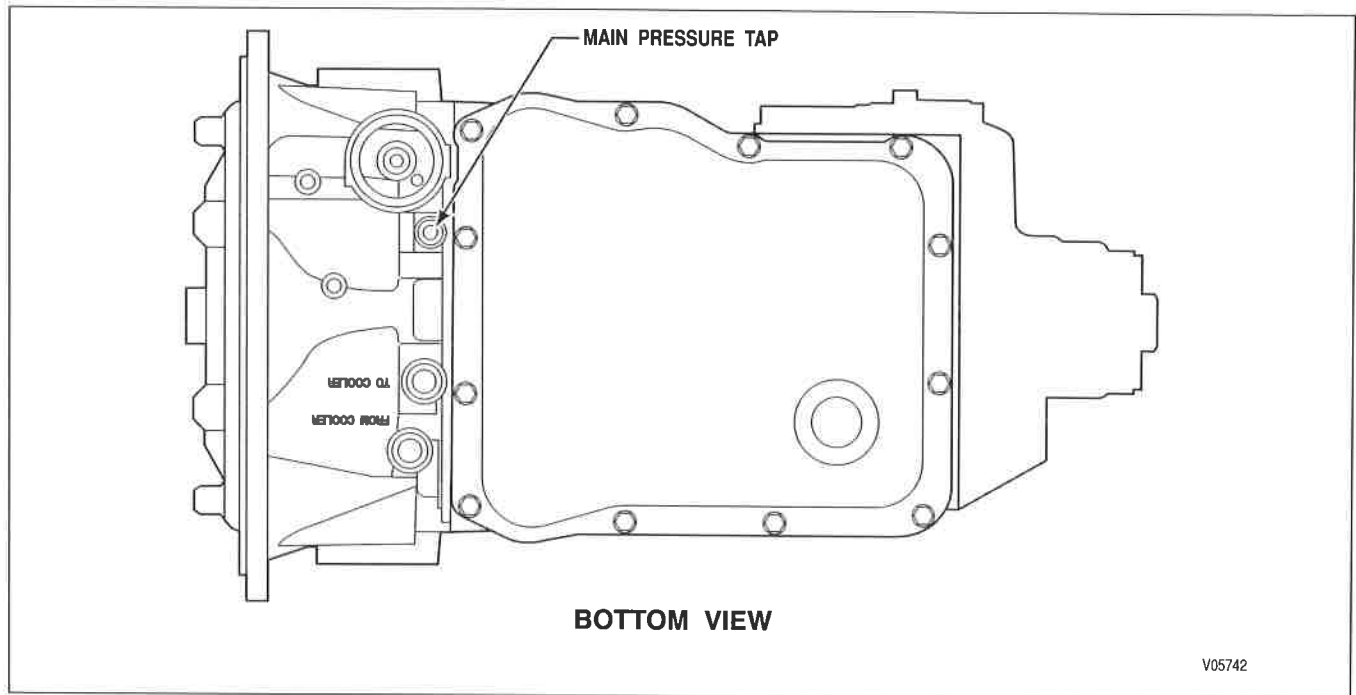

Figure 2-4. Main Pressure Checkpoint
2. Connect a 0–2070 kPa (0–300 psi), 0.4375-20 UNF-2B inch series oil pressure gauge at the main pressure tap (Figure 2-4). Use Allison DOC™ for PC-Service Tool to check engine rpm. See Table 2-5 for main pressure levels.